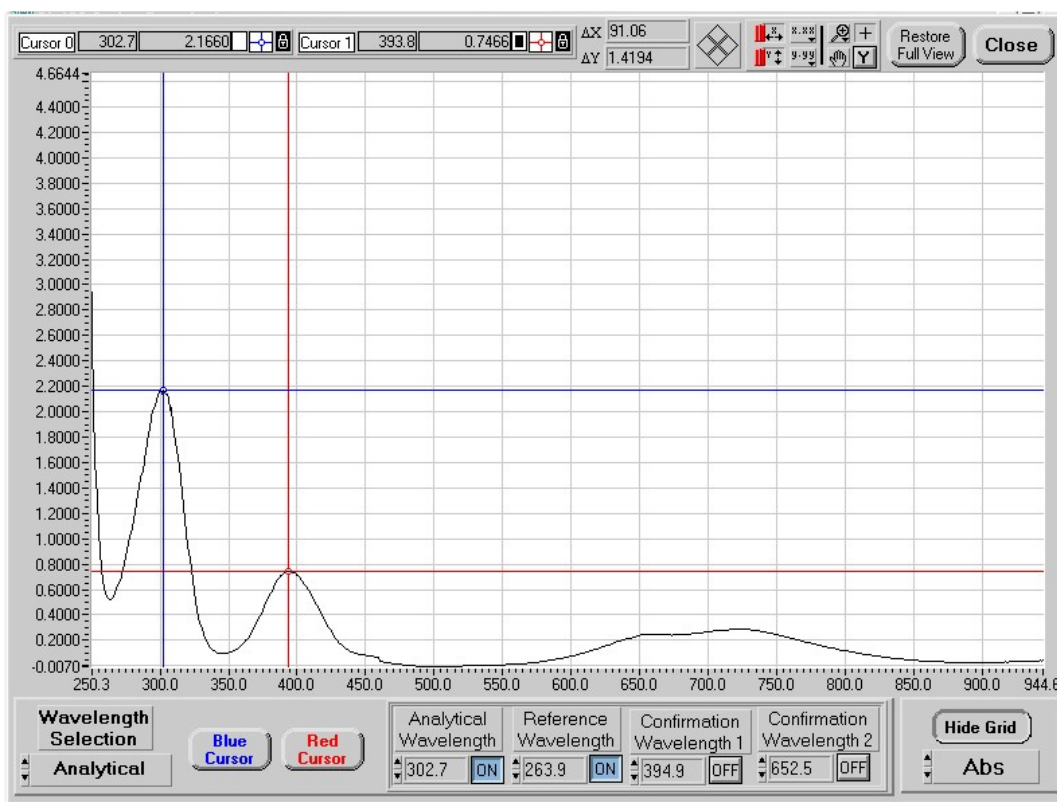

Figure 10-2 Quantitative Wavelengths Selection panel
1. Press **Selected Wavelengths** button to open the Quantitative Wavelengths Selection from the Operate menu (Figure 10-2) that will allow the selection of the wavelengths to be used for the analysis.
The following is an alphabetical listing of the Quantitative Wavelengths Front Panel controls (Figure 10.2 Quantitative Wavelength Selection panel).